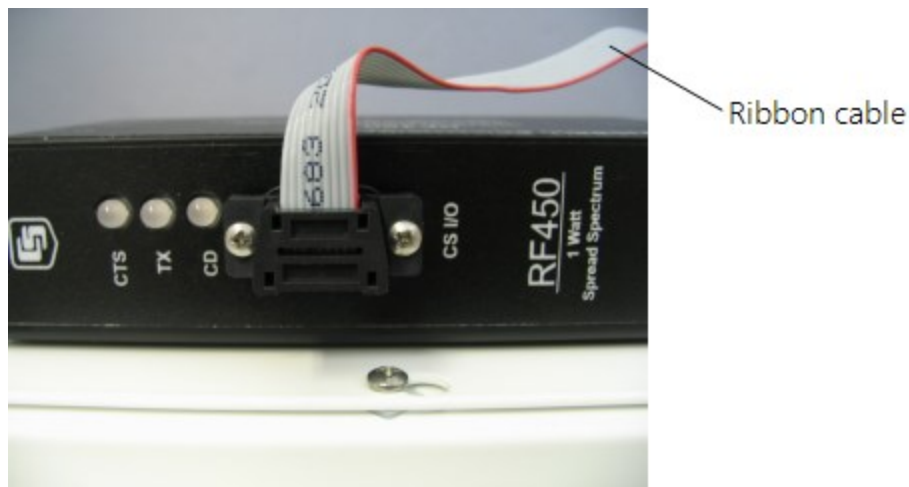

FIGURE 6-27. Attach ribbon cable to radio CS I/O port
5. Screw the connector to the radio using the provided two screws (FIGURE 6-27 (p. 44)).